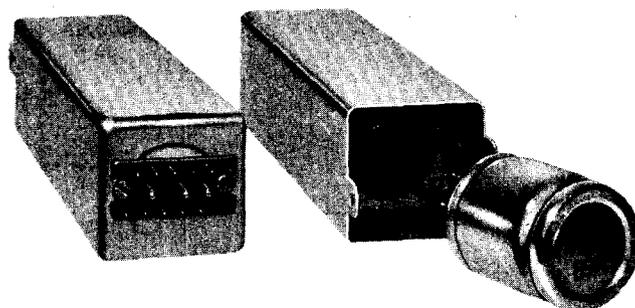

Fig. 1 — 849D Network
2.01 The 849D network is a plug-in unit (see Fig. 1) equipped with a 15-pin connector plug designed to be plugged directly into the mating connector socket of the equipment mounting shelf. The network consists of a 600:150-ohm transformer and a 600-ohm balanced pad (when the required 89-type plug-in resistor is inserted in the pad socket). The network is housed in a metal can approximately 1-3/4 inches wide by 1-3/4 inches high by 7 inches long.